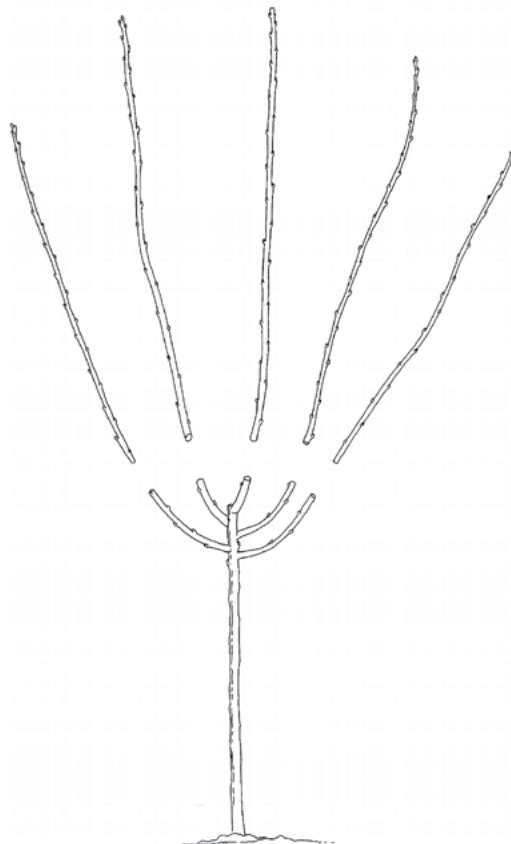

Figure 6
- **Head all leaders to 2–5 inches in length (Figure 6).**